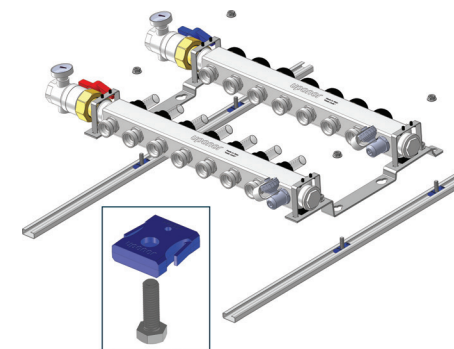

Figure 7: Mount manifold with bolts; semi-tighten with nuts
2. Mount the manifold on the rails using the extended bolts, then secure with provided nuts and semi-tighten (see **Figure 7**).